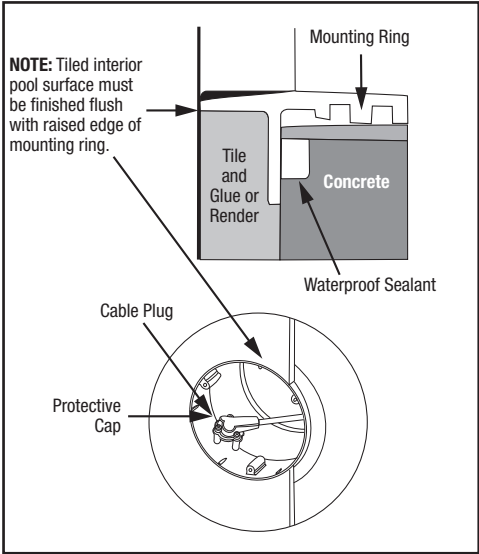

Figure 4. Concrete Niche Final Installation Steps
10. Press the second, smaller polystyrene foam cover (item 26939) into the mounting ring. This will prevent dirt and debris entering the niche during rendering or tiling and will also help maintain roundness under the weight of the tiles.
11. Now apply the render or tiles, ensuring that the finished tile/render surface is level with the front edge of the mounting ring. See Figure 4.